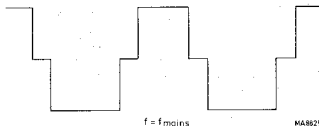

Fig. 17. Voltage on + side of capacitor 512
- If detuning the bridge an oscillogram as shown in fig. 17 will be visible at the + side of capacitor 512